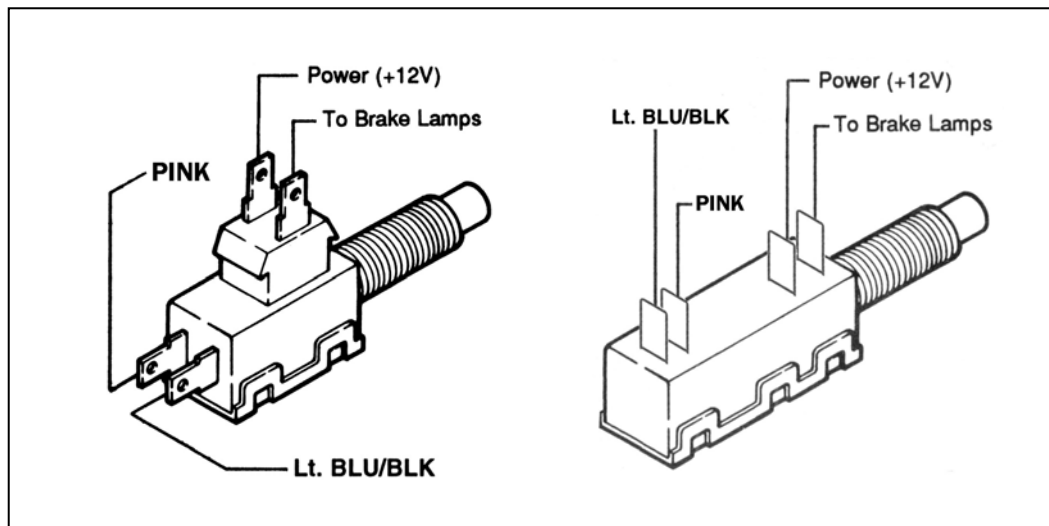

FIGURE 6.2 Brake Switch Connection
- F.** If you are using the recommended brake switch then you will wire it according to **Figure 6.2**. The pink wire to the back of the switch in the illustration is the wire that has power on it whether or not the brake is being applied.